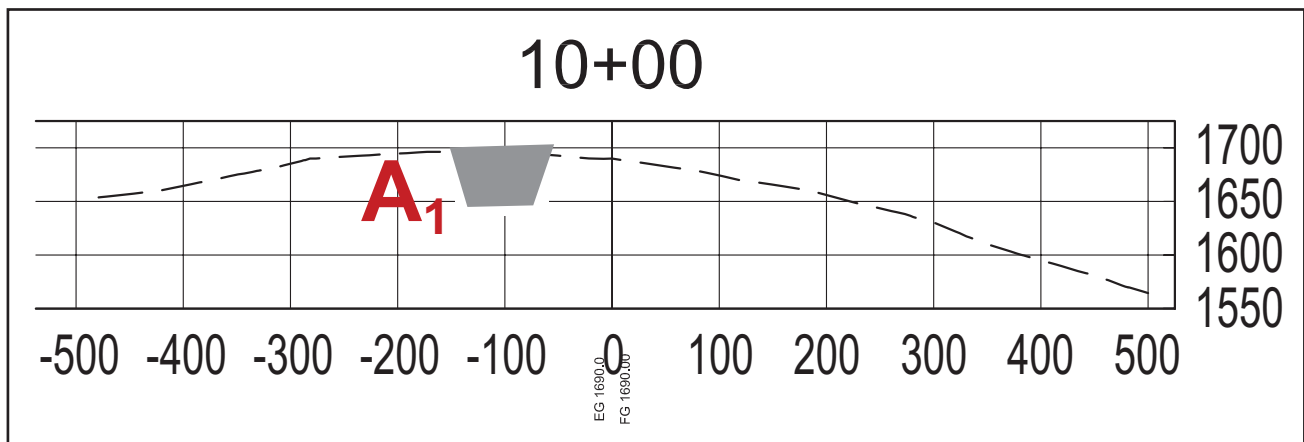

Figure 1 Cut Area at Station 10+00
1. For every 500 feet, on the drawings of Elliot Highway existing ground cross sections, superimpose your typical section on top of the existing ground. An example is shown in Figure 1 below. The 0 mark on the horizontal axis identifies the centerline of the existing alignment. The dashed line represents the existing ground. The gray area represents the end area of the cut required for a new alignment that has its centerline located 100 feet west of the existing centerline at elevation 1650 ft. Estimate the end area of cut and enter the area (A_1) in a Excel spreadsheet for earthwork calculation. Repeat the same end area calculation for every 500 ft.